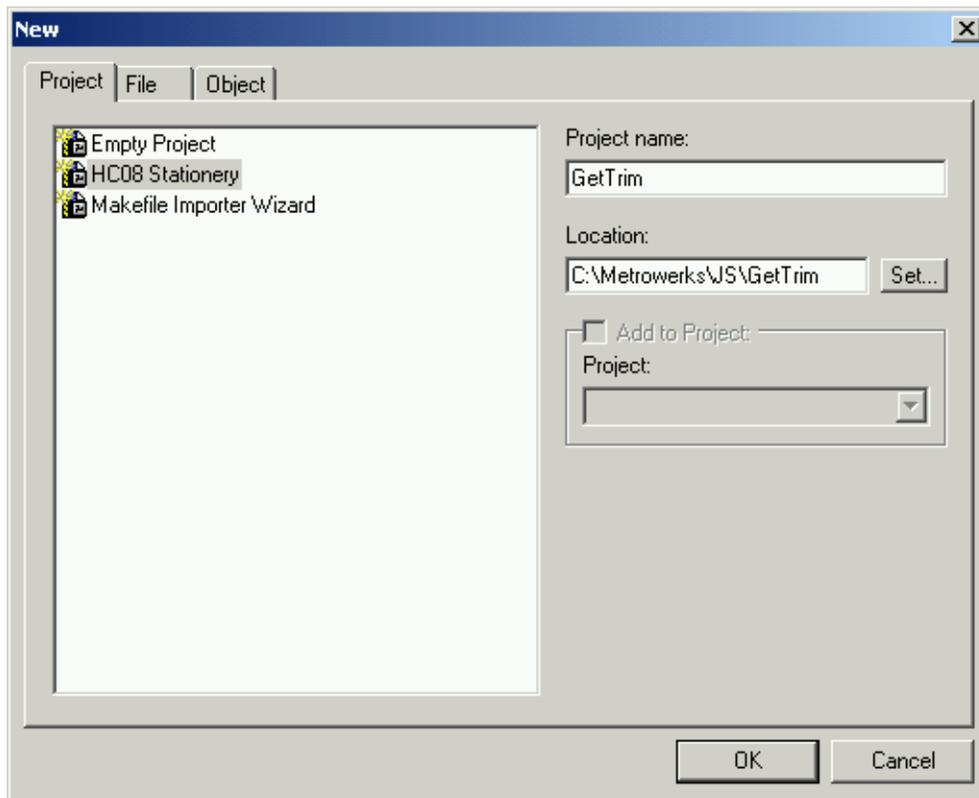

Figure 2. CodeWarrior New Project Window
3. Select HC08 Stationery (Figure 2).